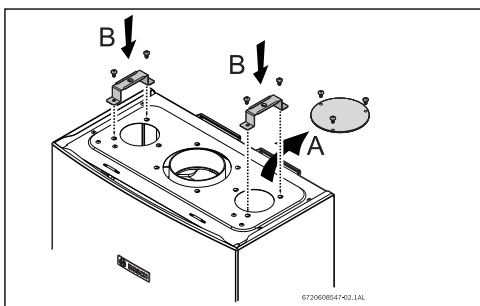

Fig. 4
- ▶ 1. Remove the cover plate (A) from the top of the appliance, as shown in Fig. 4.
- ▶ 2. Attach the supports (B) to the appliance with the four provided screws, as shown in Fig. 4.